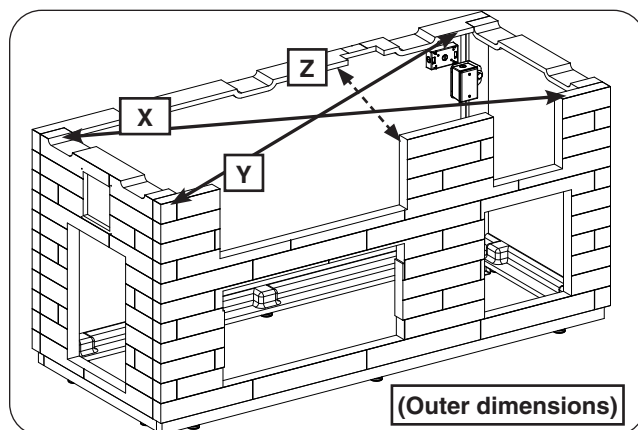

Fig. 8-3 Square unit (then tighten all bolts)
- a. Measure the X outer dimension, see Fig. 8-3. It should be approximately $81\ 1/2$ ".
- b. Measure the Y outer dimension, see Fig. 8-3. Carefully adjust the walls as needed to ensure the X & Y dimensions are equal. (The final dimension may slightly vary from that mentioned in step a.)
- c. Measure the Z outer dimension, see Fig. 8-3. It should be approximately 32".